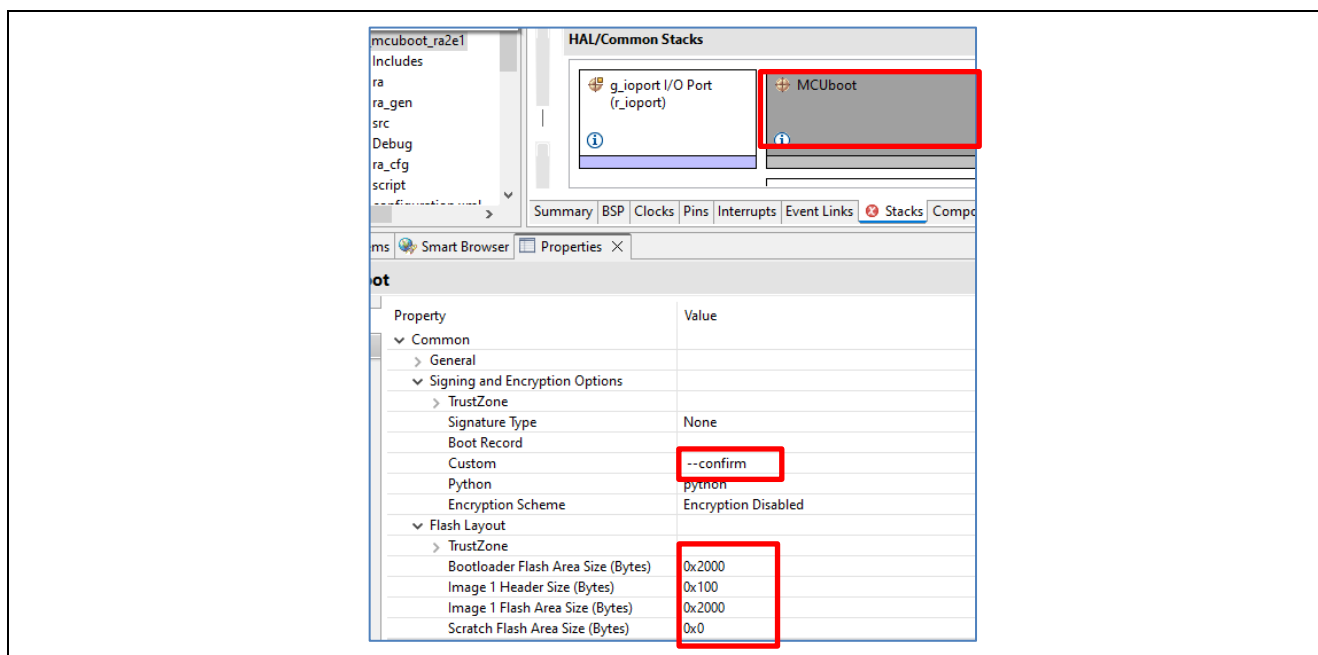

Figure 14. Update Configurations for Project ra_mcuboot_ra2e1
ra_mcuboot_ra2e1	Figure 14
- **NONE:** This option is selected for the bootloaders that do not support signature verification as shown in Figure 14 and Figure 16.